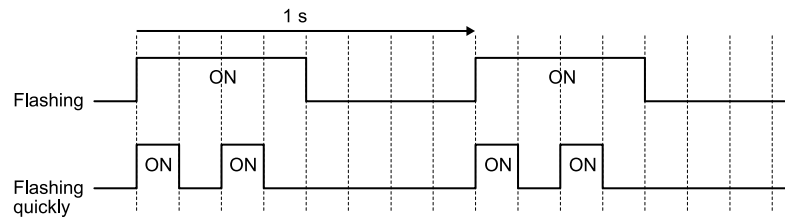

Figure 5.1 LED Flashing Statuses
*1 Refer to Figure 5.1 for the difference between “flashing” and “flashing quickly”.